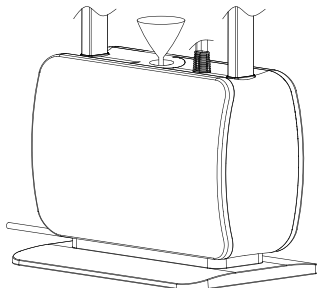

FIGURE 1
4. *Add water using the included Measuring Cup and Funnel. (Figure 1)*